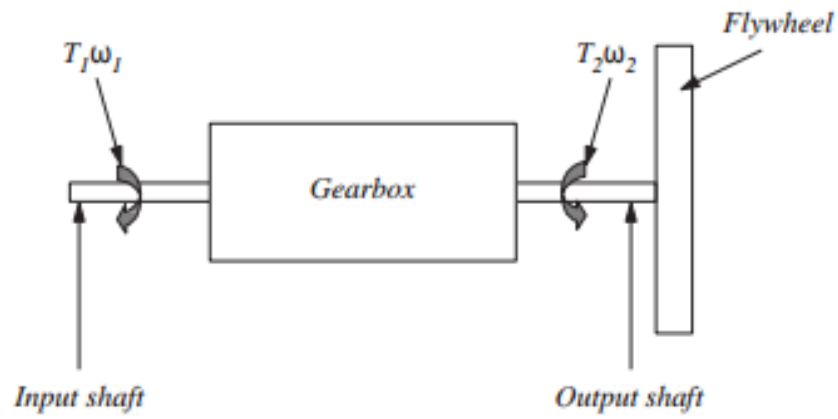

FIG. 4
3. A gearbox and flywheel are as shown in FIGURE 4. The output shaft rotates in the opposite direction to the input shaft at 5 times its speed. The gearbox has an efficiency of 92%.